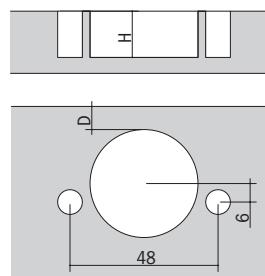
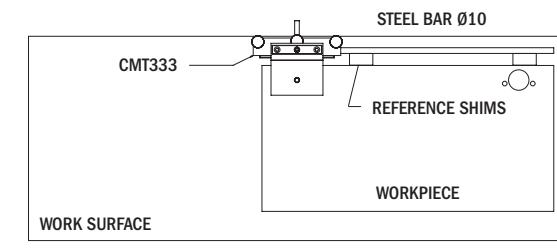

Fig. 3
Fig. 4
Position the drilling system on a work surface suited to the type of machining. Procure a steel bar with a diameter of Ø10mm and a length suited to the type of machining to be carried out and fit it in the side hole (2). Adjust the reference stop and lock everything with the two clamp knobs (3) and fix one or more reference shims on the table according to the length of the workpiece to be drilled (**Fig. 4**).
Set drilling distances (**Fig. 3**): From the panel's edge to the hinge (D) by means of the plate and centre clamp knob (4) and the drilling depth (H) with the threaded bar and lock nut (5), then position the workpiece to be drilled (**Fig. 4**). The bits suited to the head chosen are then fitted to the three arbors: on the centre arbor (6) fit and lock the Ø35mm bit for right hand hinges, whereas, on the two side arbors (7), fit left-hand Ø8mm or Ø10mm bits for blind holes. (according to the type of hinge), which are fixed with the two dowels, (**Fig. 2**).